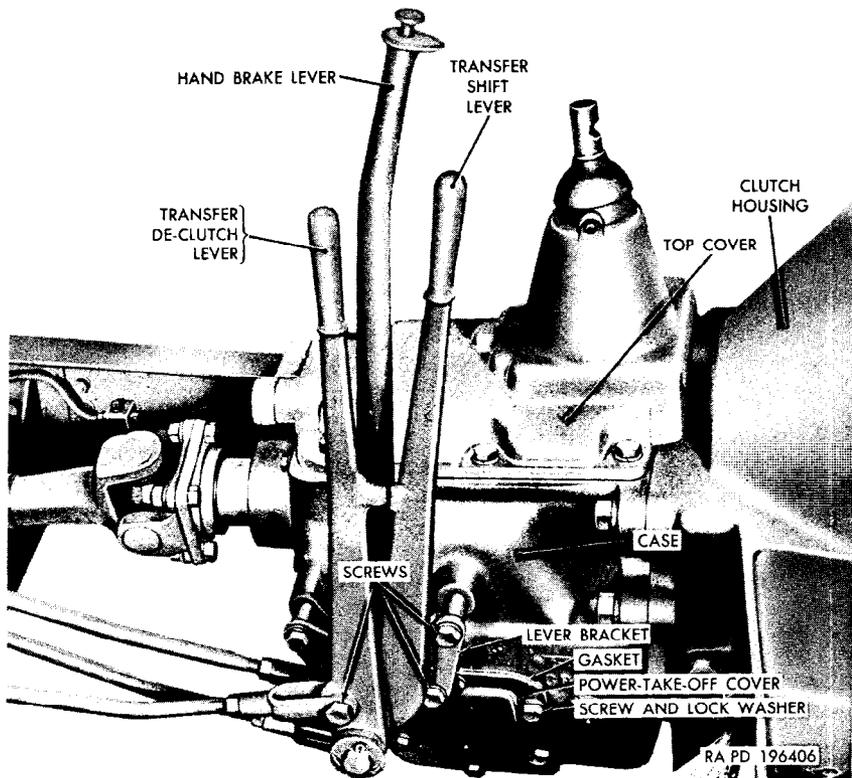

Figure 159. Transmission—right side.
- (2) Remove the six cap screws and lockwashers that secure the cover to the transmission case (fig. 159) and remove the cover and cover gasket. Discard the gasket.
- (3) Clean the gasket surfaces of the case and the cover thoroughly.
- (4) Apply liquid-type gasket cement to both sides of a new gasket and position the gasket on the cover. Position the cover and gasket on the case, aligning the screw holes. Install the six $\frac{3}{8}$ -inch lockwashers and $\frac{1}{8}$ -16NC x $\frac{3}{4}$ cap screws. Tighten the screws evenly.
(fig. 159)
- (7) Place the assembled handbrake lever and transfer shift levers and bracket in position at the side of the transmission and install the three $\frac{3}{8}$ -inch lockwashers and $\frac{3}{8}$ -16NC x $2\frac{3}{4}$ screws (fig. 159). Tighten the screws evenly.
- (8) Install the transmission access cover (par. 122f).